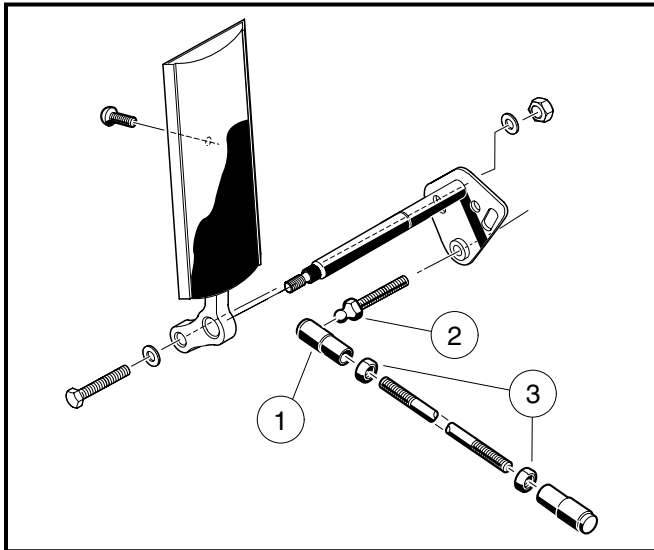
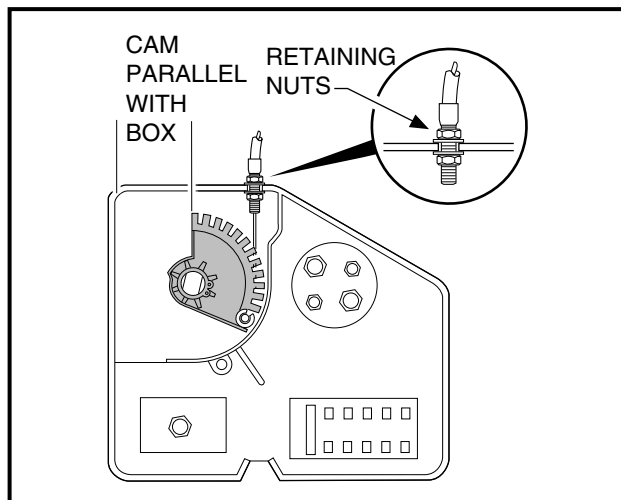
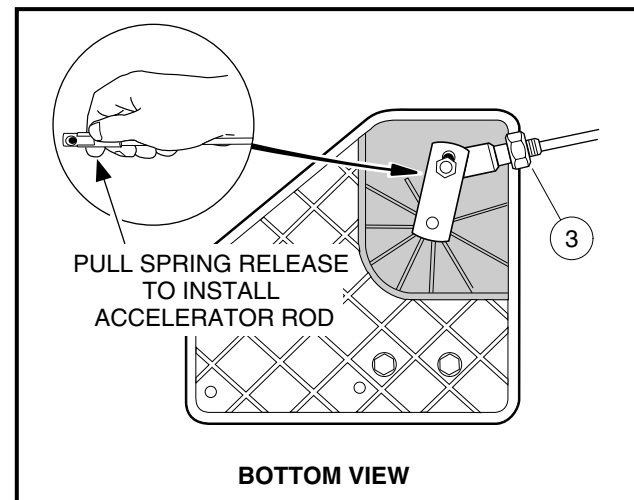
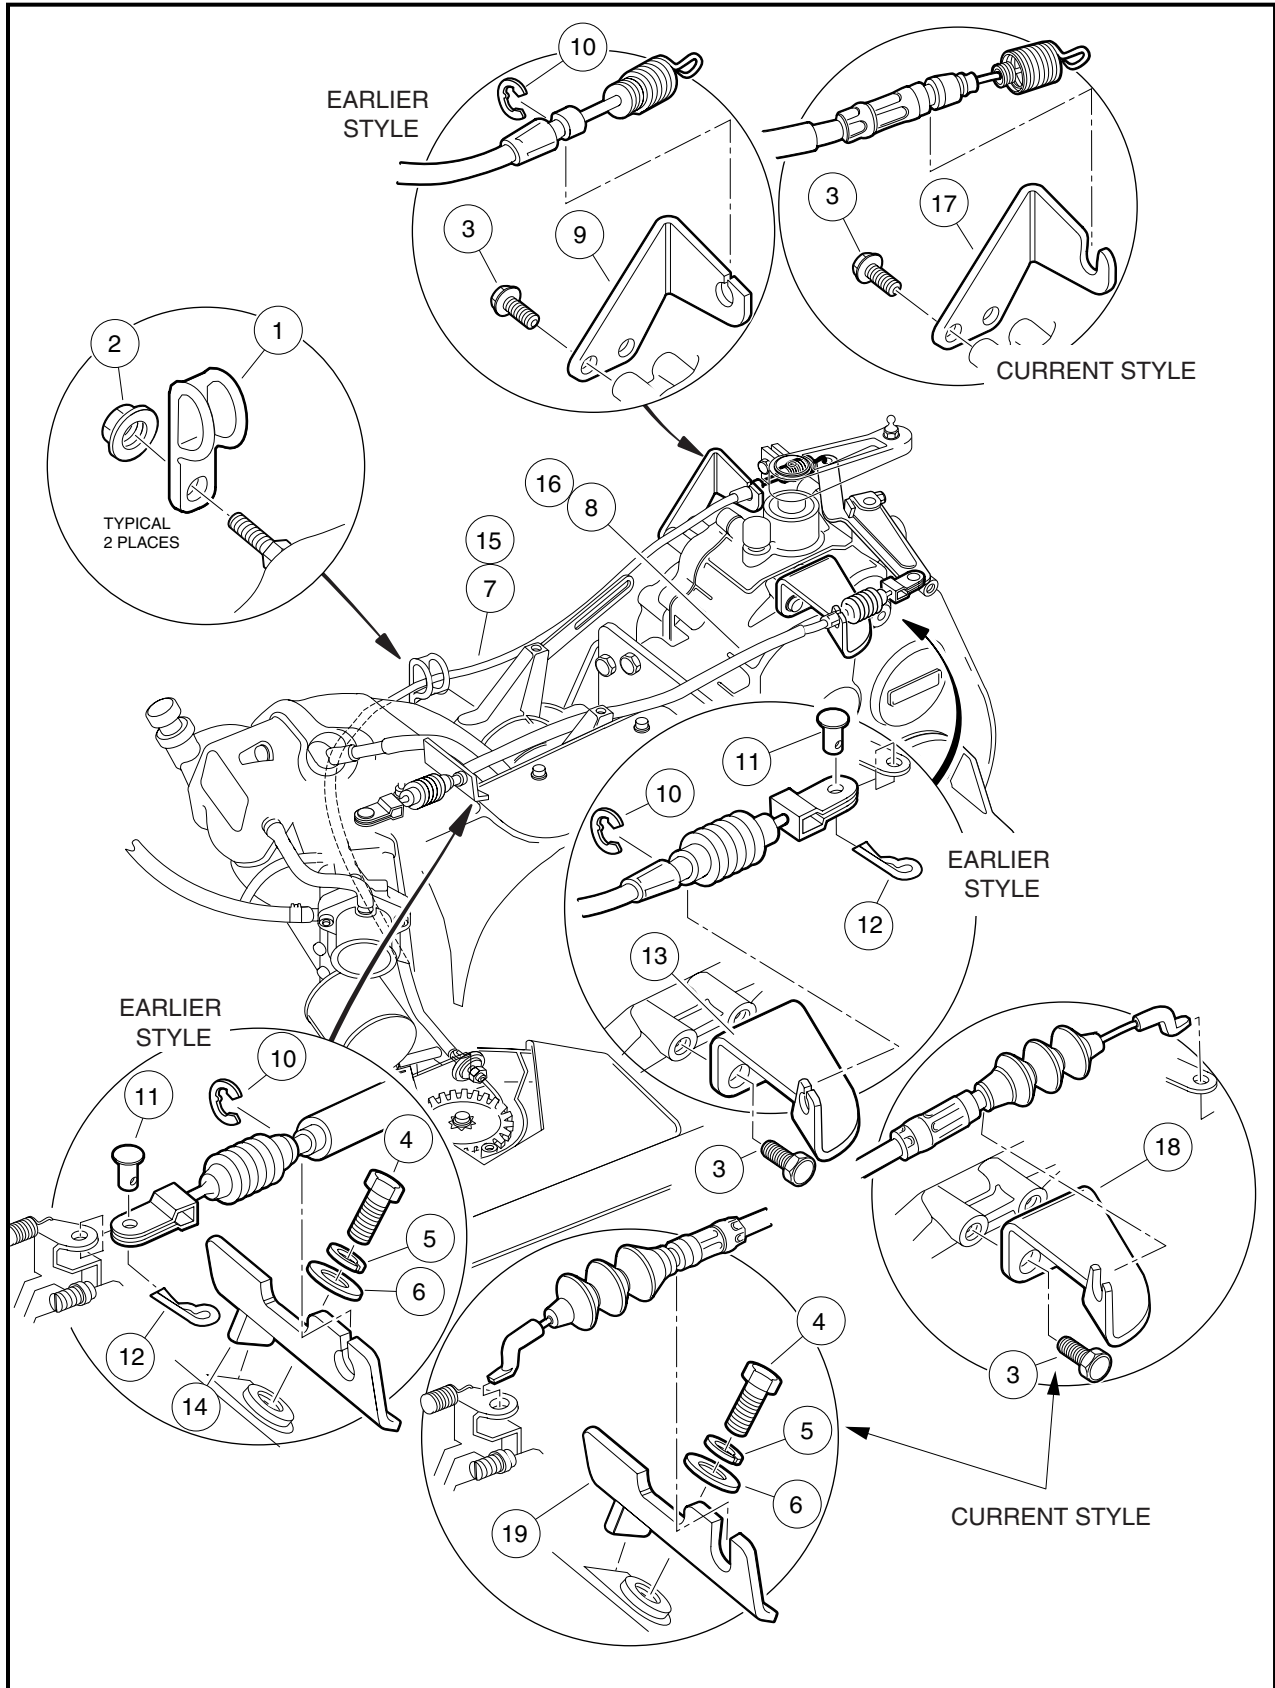

Figure 14-4 Accelerator Rod
Figure 14-5 Cam Position
Figure 14-6 Accelerator Rod
Figure 14-7 Governor and Accelerator
2. Disconnect the ball joint (1) from the ball stud (2) on the accelerator pedal (**Figure 14-4, Page 14-6**) and from the bell crank at the electrical box (**Figure 14-6, Page 14-8**).
3. Install the ball joint on the ball stud at the accelerator pedal (**Figure 14-4, Page 14-6**).
5. With the ball joint jam nuts (3) loose (**Figure 14-4, Page 14-6**), adjust the length of the accelerator rod so the indicated cam edge is parallel with the edge of the electrical component box (**Figure 14-5, Page 14-8**). See following **CAUTION**.
6. Install the accelerator rod on the bell crank ball joint on the electrical component box (**Figure 14-6, Page 14-8**). See following **CAUTION** and **NOTE**.
- 2.1. Remove cotter pin (12) and clevis pin (11) at the carburetor throttle bracket (**Figure 14-7, Page 14-9**).
- 3.1. Remove the cable from the engine bracket (19) and lift the 'Z' shaped cable end from the carburetor throttle bracket (**Figure 14-7, Page 14-9**).
- 1.1. Install the cable onto the governor cable support bracket (13) and the engine bracket (14) and attach an E-ring (10) at each end (**Figure 14-7, Page 14-9**).
- 2.1. Install the 'Z' shaped end into the governor bracket (18) and push cable down into bracket slot to secure. Be sure the bellows dust shield is attached (**Figure 14-7, Page 14-9**).
3. Remove the electrical component box cover and loosen the cable housing retaining nuts (**Figure 14-5, Page 14-8**).
4. Disconnect cable (**Figure 14-7, Page 14-9**) from cam in the electrical box (**Figure 14-5, Page 14-8**).
- 5.1. Remove the E-ring (10) on the spring end of the cable at the accelerator cable bracket (9) (**Figure 14-7, Page 14-9**). Pull the cable housing out of the bracket.
1. Connect the cable to the cam in the electrical box (**Figure 14-7, Page 14-9**).
2. Insert the cable housing into the mounting slot in the wall of the electrical box, with approximately the same number of threads visible between the jam nuts as are visible from the nut inside the box to the end of the cable housing (**Figure 14-5, Page 14-8**). Tighten the nuts finger-tight.
3. Connect the spring to the engine governor arm (**Figure 14-7, Page 14-9**).
3. To **reduce** RPM, loosen the accelerator cable retaining nut on the outside of the electrical box wall and tighten the retaining nut on the inside of the wall until the specified RPM is reached (**Figure 14-5, Page 14-8**). To **increase** RPM, loosen the cable retaining nut inside the electrical box and tighten the nut outside the box until the desired RPM is reached.